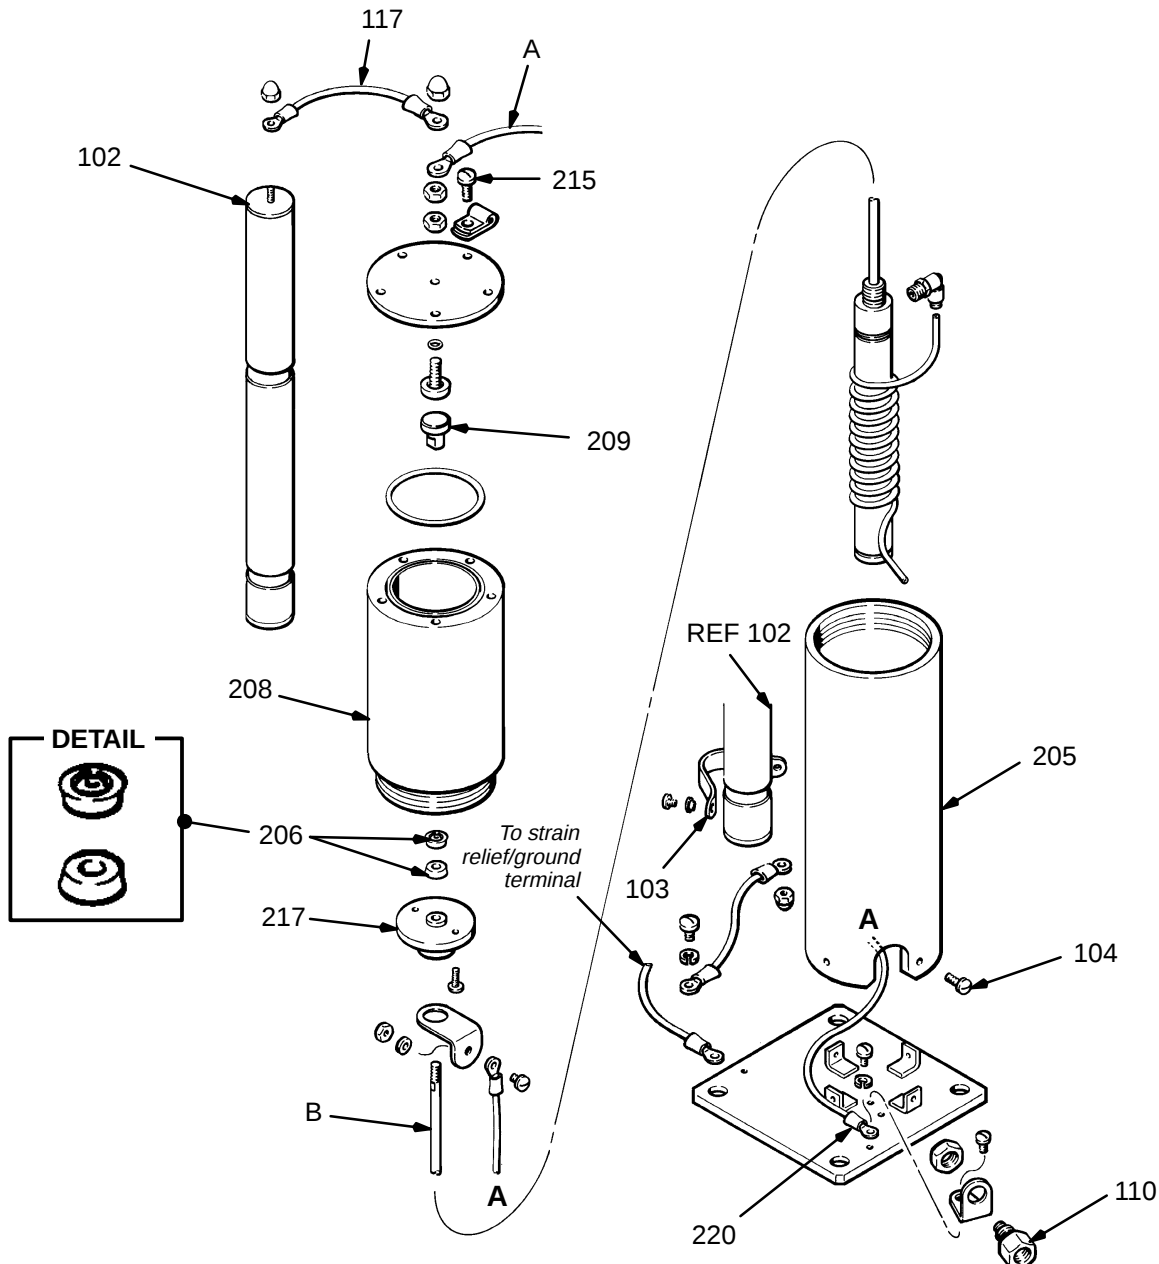

Fig 29
2. Disconnect the cable (A) connected between the dump switch and isolation stand.
3. Remove straps (103) from the bleed resistor (102).
4. Disconnect the ground connection (220) connected to the voltage control base.
5. Remove the four screws (104).
6. Disconnect the air line from the fitting (110).
7. Remove the oil cup (208) from the dump switch housing (205).
8. Remove the five screws (215) from the top cover.
9. Empty the oil from the oil cup (208) into a clean container. If the oil is clean, it can be reused. If there is a black carbon residue, replace the oil with electrical insulating oil, such as Diala® Ax Oil (Shell Oil Company) or an equivalent oil that meets ANSI/ASTM D3487 and NEMA TR-P8-1975 specifications.
10. Remove the electrode (209) from the cylinder rod (B).
11. Remove the seal flange (217) from the oil cup (208).
12. Remove the two seals (206). Replace them with two new seals, part no. 110-612. Orientate the seals as shown in Fig 29.
13. Refill the oil cup (208) and reassemble the voltage control in the reverse order of disassembly. Use a semi-permanent thread sealant to fasten the electrode (209) to the cylinder (B).